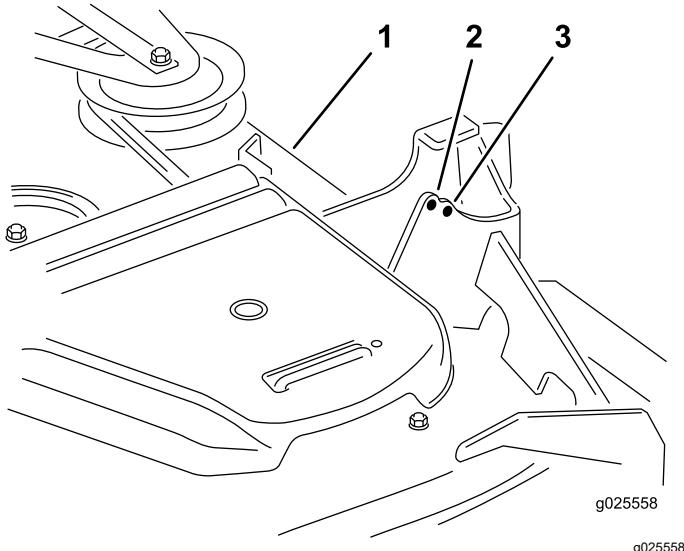

Figure 78
**Note: Rear Discharge Machines Only:** The mower deck is attached in the front holes at the factory (Figure 78). If needed, use the back holes for further adjustment when leveling the mower deck.